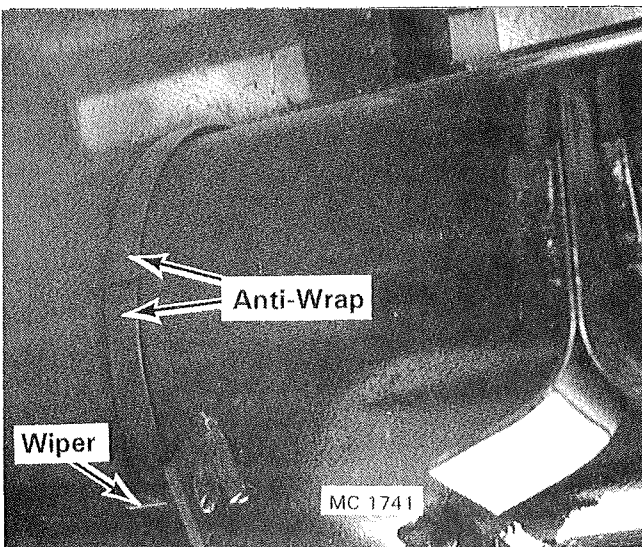

Figure 41
7. Check the position of the two wipers (180° apart) at the end of the rotor, see Figure 41. They should be as close to the anti-wrap as possible without touching it. The wiper prevents material from building up on the anti-wrap. If necessary, loosen the wiper locknut and reposition the wiper in the adjusting slot.